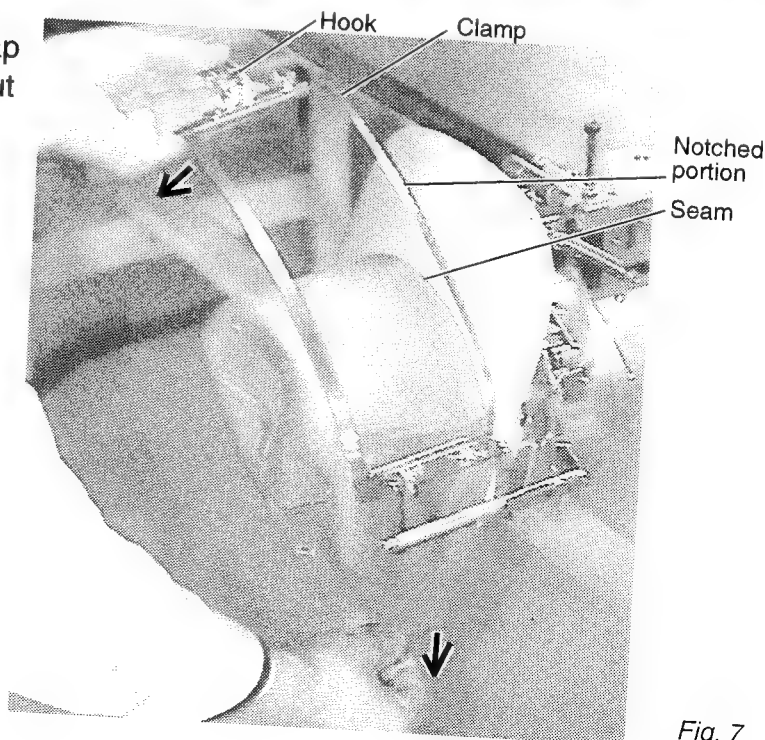

Fig. 7
5. As shown in Fig. 7, pull back part of cap and hook it on the hook and smooth out creases on cap. At this time, align the center of the cap to the center mark on the cap frame so that notched portion of the clamp fits into the seam of the visor.